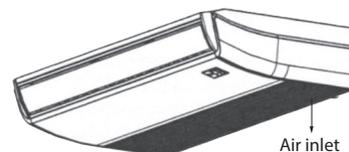

FIG. 6-1
- Open the air intake with the screwdriver or something like that. (Refer to Fig.6-1).